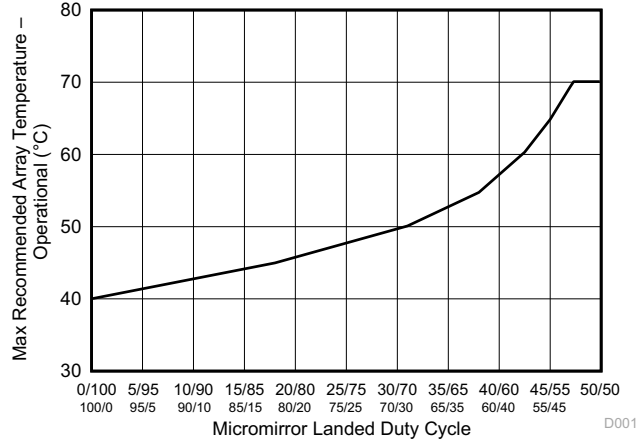

图 6-1. Max Recommended Array Temperature – Derating Curve
- (13) Per Figure 6-1, the maximum operational array temperature should be derated based on the micromirror landed duty cycle that the DMD experiences in the end application. Refer to Micromirror Landed-On/Landed-Odd Duty Cycle for a definition of micromirror landed duty cycle.
- (14) Long-term is defined as the usable life of the device
- (15) Short-term is the total cumulative time over the useful life of the device.